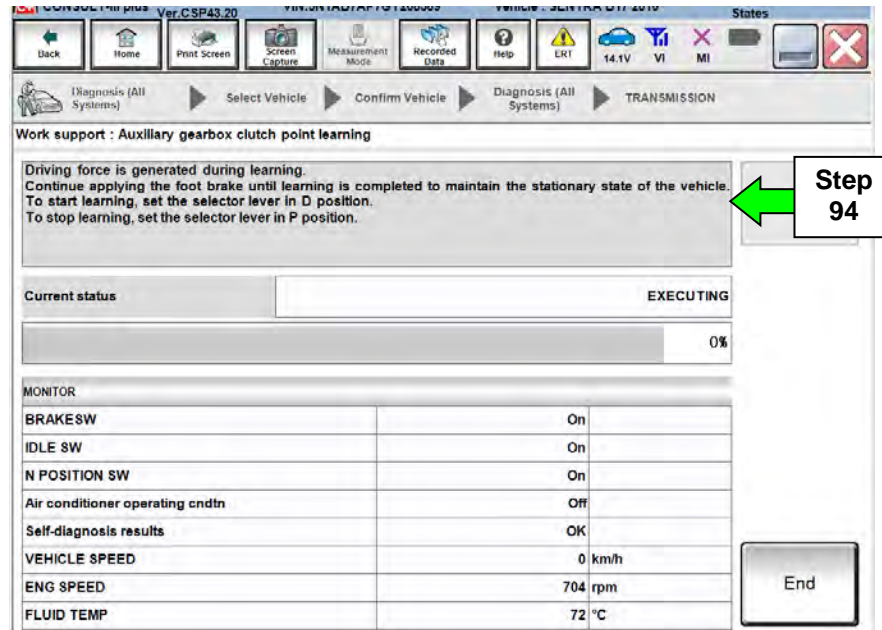

Figure 52
- Figure 52 will be displayed after shifting into the **D** position.